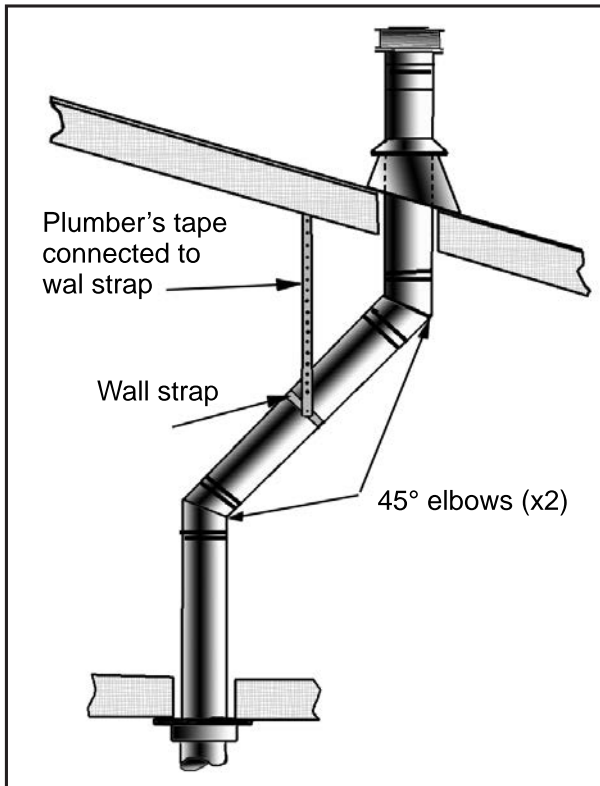
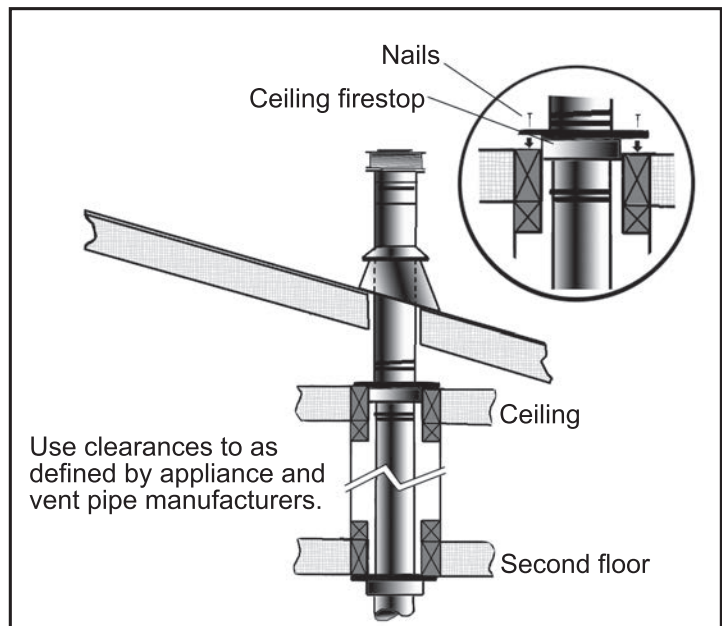

Figure 53: Use of Wall Straps.
Figure 54: Multi-Story Vent Pipe Installation
- (1) If an offset is necessary in the attic to avoid obstructions, it is important to support the vent pipe every **3' (914 mm)**, to avoid excessive stress on the elbows, and possible separation. Wall straps are available for this purpose (see Figure 53).
- (2) When ever possible, use 45° degree elbows instead of 90° degree elbows. The 45° degree elbow offers less restriction to the flow of flue gases and intake air.
- (3) For multi story installations; a ceiling firestop is required at the second floor, and any subsequent floors (see Figure 54). The opening should be framed to **10" (254 mm) x 10" (254 mm)** inside dimensions, in the same manner as shown in Figure 46.